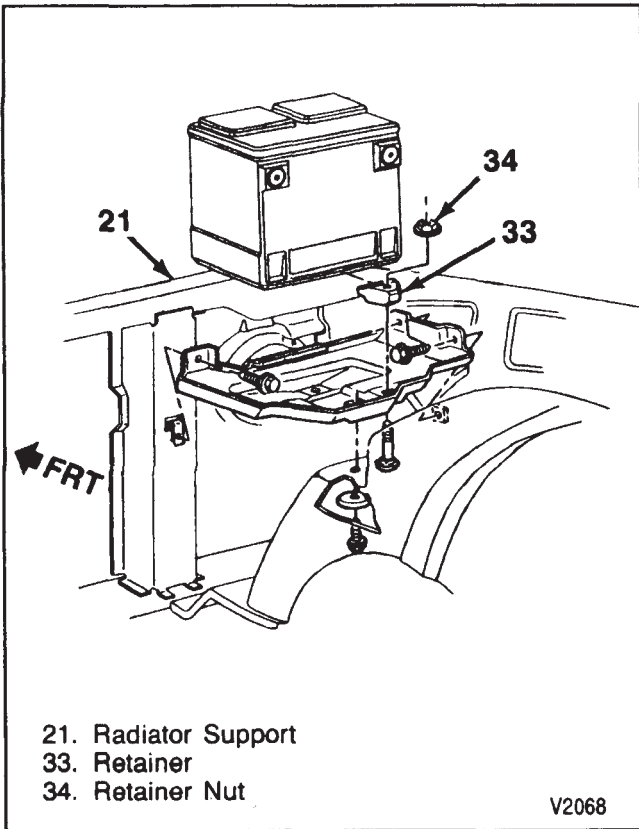

Figure 14—Battery Tray
**↔ Remove or Disconnect (Figure 14)**